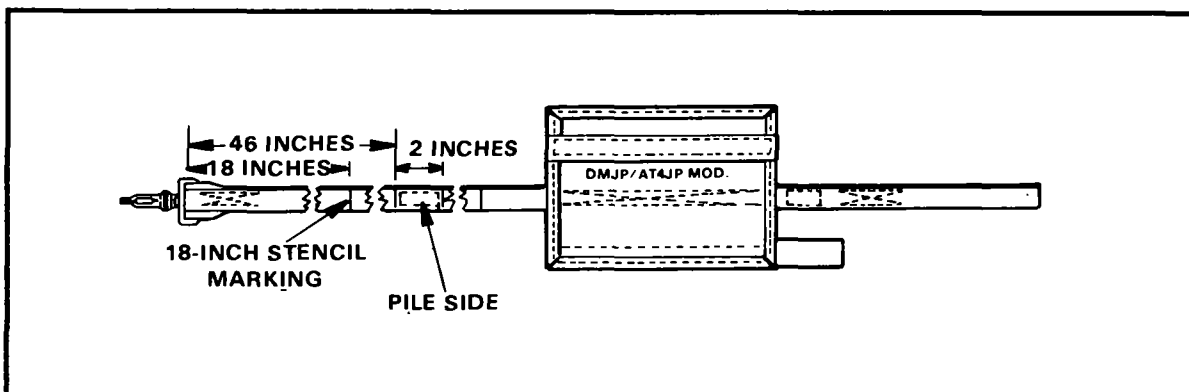

Figure 6-6. Method for attaching HPT and stencil markings.
- (1) Stitching will conform to FED-STD-751, type 301, 7 to 9 stitches per inch.
- (2) Ends of stitching will be over-stitched not less than 1/2 inch.
c. Modification Procedure (Figure 6-6).
(1) Carefully cut the stitching that secures the 2-inch long HPT located about 11 3/4 inches from the quick-ejector snap end and remove cut stitching.
(2) Cut a 2-inch length of HPT. (If the previously removed HPT is undamaged, it may be used in lieu of replacement tape).
(3) Place marks 46 and 48 inches from the folded web edge quick-ejector snap end on the same side of the removed 2-inch HPT of the 1-inch side lowering line.
(4) With pile side facing up, position 2-inch HPT between the markings, and stitch with a single box stitch formation.
d. Markings (Figure 6-6).
(1) Stencil the following with 1/2-inch high characters on the outside of retainer fabric using a stencil brush and parachute-marking blue ink "DMJP/AT4JP MOD."
(2) Stencil a 1/8-inch wide line across the web width on each side of the lowering line, 18 inches from the fold web edge quick-ejector snap end.